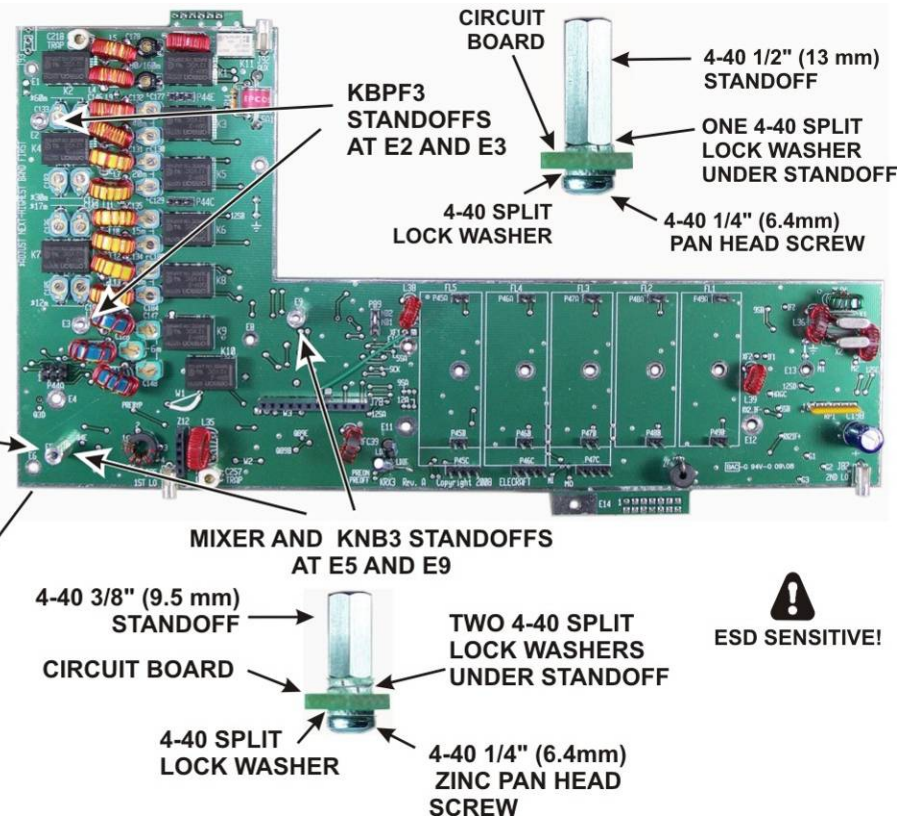
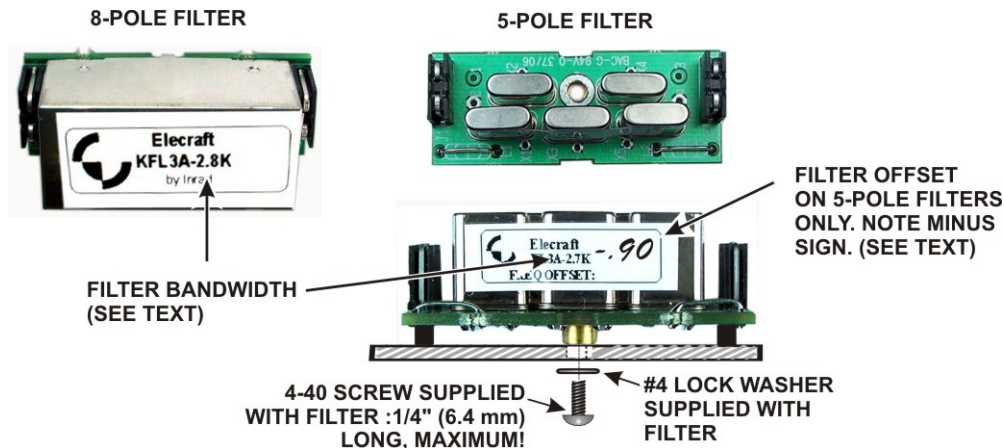
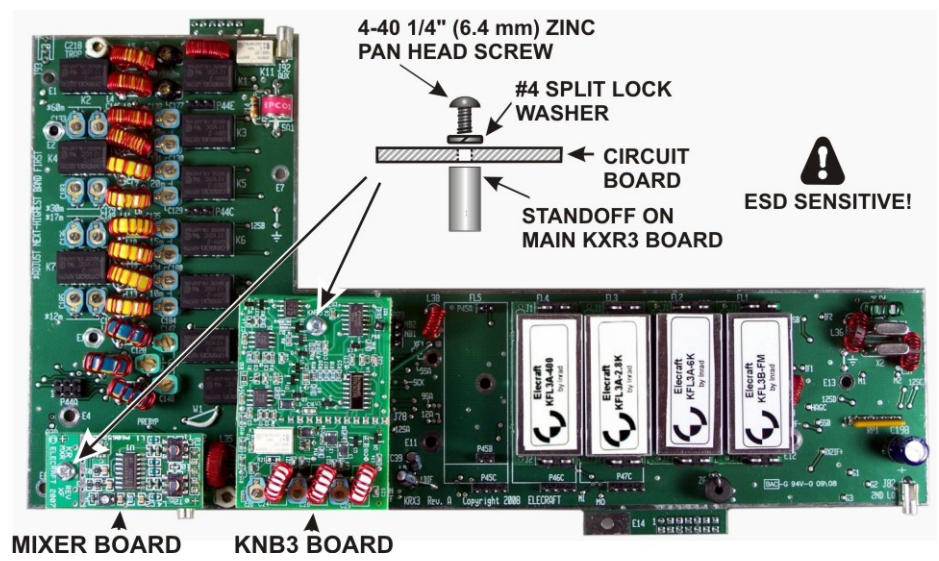

Figure 37. Installing Standoffs on the KRX3A Main PC Board.
Figure 38. Installing Crystal I.F. Filters.
Figure 39, Main KRX3A Board Ready for Installation.
Install four standoffs on the KRX3A main circuit board as shown in Figure 37. Be careful to use the correct length standoff and the exact combination of washers shown in each location, and carefully follow the instructions for installing the standoff at E5 to avoid damaging the board.
Check to ensure that you installed all four standoffs exactly as shown in Figure 37 above.
Locate the crystal I.F. filters. Two types of filters are available: standard 5-pole filters and optional 8-pole filters (see Figure 38). One standard 5-pole 2.7 kHz filter is supplied. If you have elected to equip your K3 with the optional 8-pole 2.8 kHz filter, it has been supplied instead of the 2.7 kHz filter. If you have purchased additional filters, they may be installed now as well. If you plan to add filters later, spaces may be left for them. For example, if you plan to add the FM or a 6 kHz AM filter later, you can leave spaces FL1 and FL2 open for them and install the 2.8 kHz filter in position FL3. The filters are not hard to move about later, so if you aren't sure, install the widest at FL1, the next widest at FL2 and so on.
Install the filters on the KRX3A board as shown in Figure 38. Use the screw and lock washer supplied with each filter. Refer to the list of filters you created in Table 1 to ensure each filter is installed in the proper position. Four of a possible five filters are shown installed on the KRX3A board in Figure 39.
□ Mount the Mixer and KNB3 boards on the main KRX3A board as shown in Figure 39. Be certain the connector on each board is properly aligned and mated with the connector on the main KRX3A board. The boards should be parallel to the KRX3A board. If they are tilted, check to ensure the correct number of washers were installed under the standoffs and that you used the correct standoffs as shown in Figure 37.